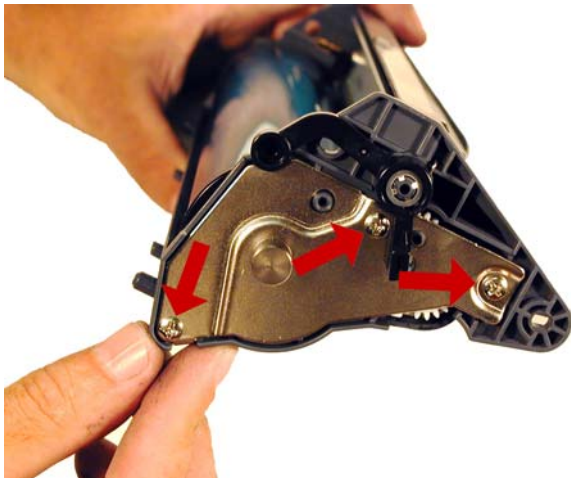

Figure 53
43) Install the drum axle plate and 3 screws (short silver). Make sure the contact grease on the end of the axle is clean, if not, replace it. See **Figure 53**